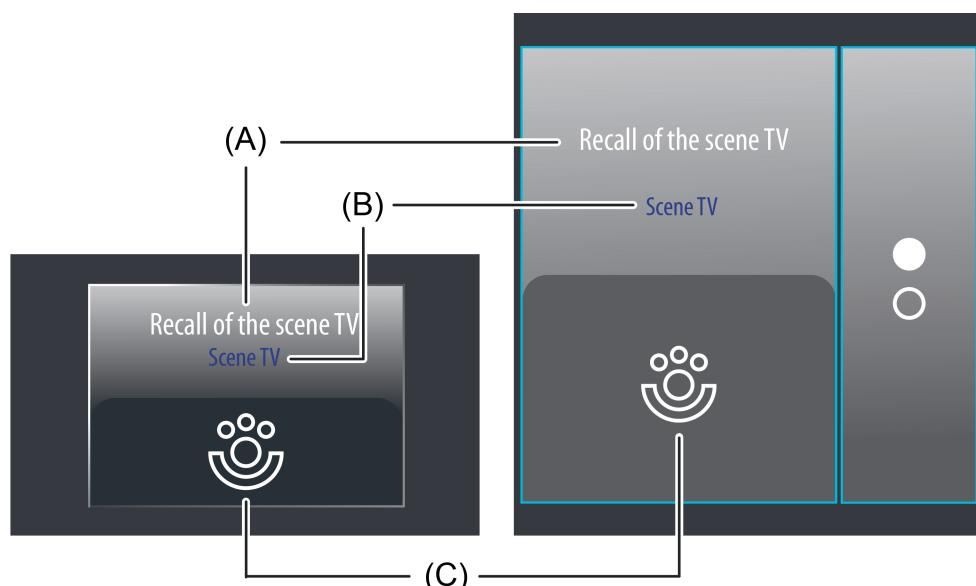

Figure 36: Example of an operating and display element of the function "Scene recall"
The display area contains different display elements (figure 36) that are influenced by parameters or by the scene configuration itself. A name can be assigned to each KNX function in the configuration software (A). This text name is centred in the display element for display whereby the function of the scene recall is identified for the user (e.g. "recall of the scene TV"). In addition, a status text (B) can be displayed below the name, which displays the name of the internal scene last recalled. After a device reset, the status text shows "---" until an internal scene has been recalled.